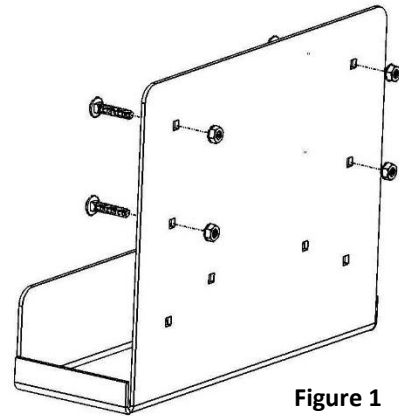

Figure 1
STEP 1: Secure the carriage bolts to the computer mount using the Keps nuts. (See Figure 1)